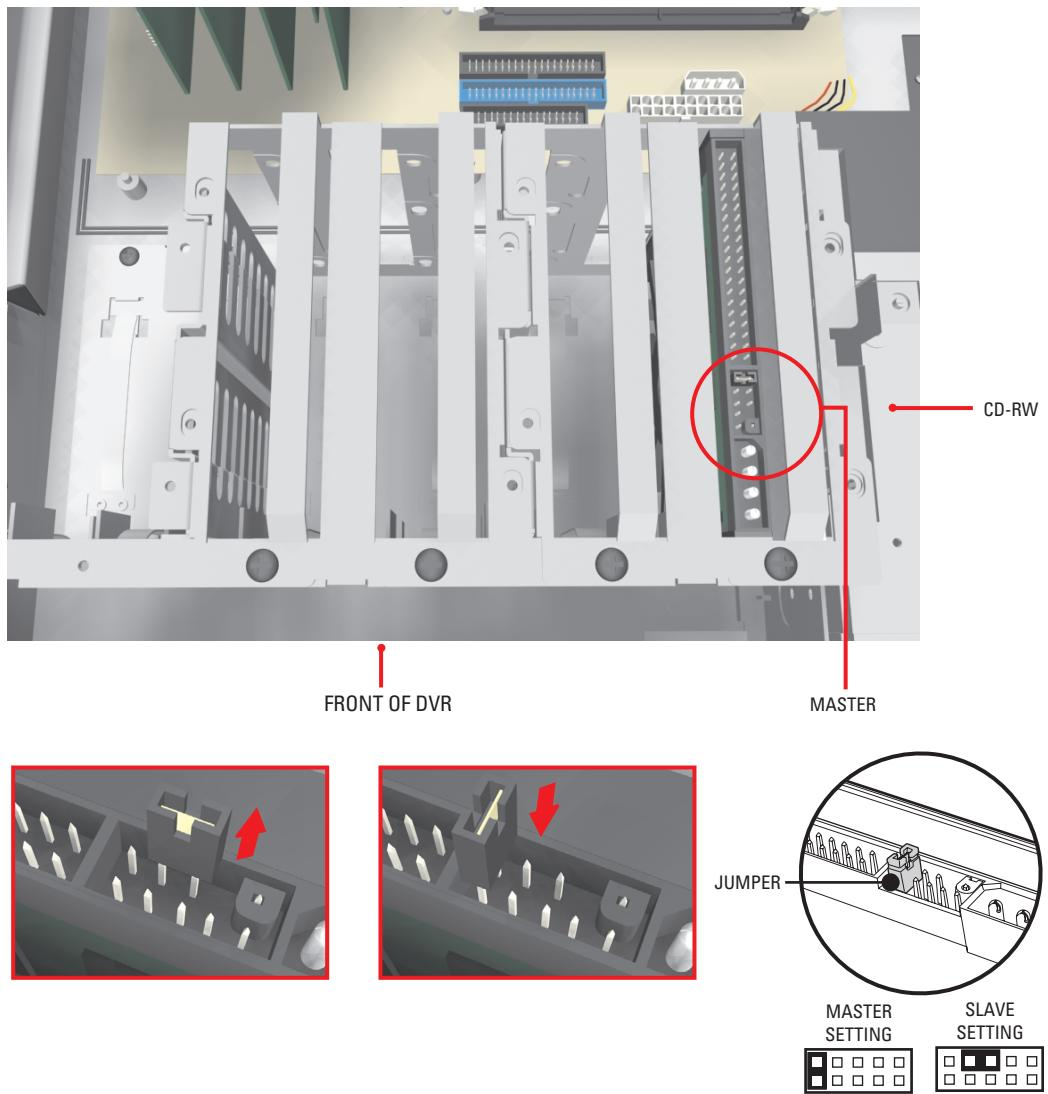

Figure 15. Setting Drive Jumper
- a. Using your fingernails or a pair of tweezers, remove the plastic jumper block by pulling it gently away from the drive as shown in Figure 15.